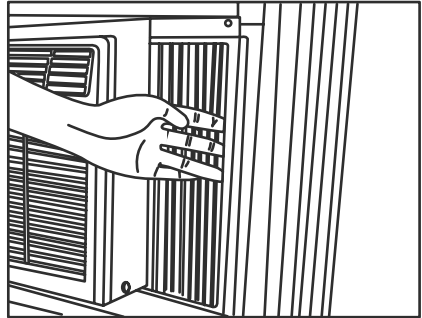

Fig.6
3. Extend the side panels out against the window frame (Fig.6).